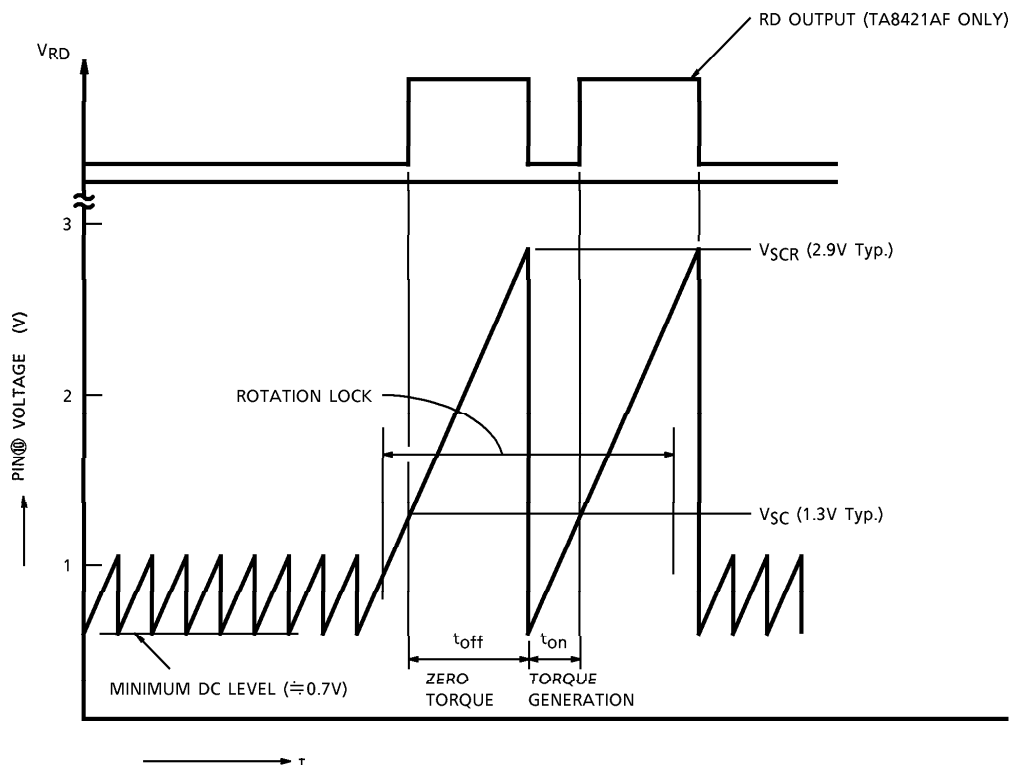

Fig.1 Automatic Self Rotation Recovery Circuit Operation
Fig.1 shows pin⑩ voltage and the operation of this functions are as follows.
RD output becomes low (Actually $V_{SAT}(RD)$ level of 0.3V Typ.) when the Motor in rotation state and generates t_{off} pulse when the rotation is locked (Refer to Fig.1).